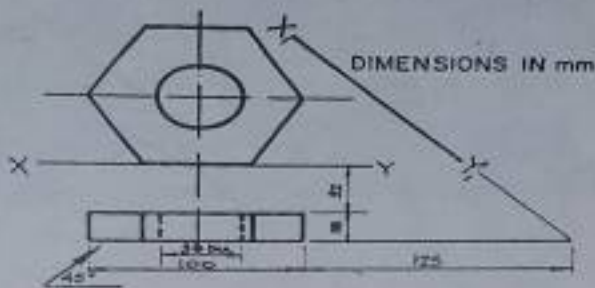

Figure 2
2. The plan and elevation of a hexagonal distance piece are shown in figure 2. Draw these views, full size and project an auxiliary elevation on X_1, Y_1 . Show all hidden details.